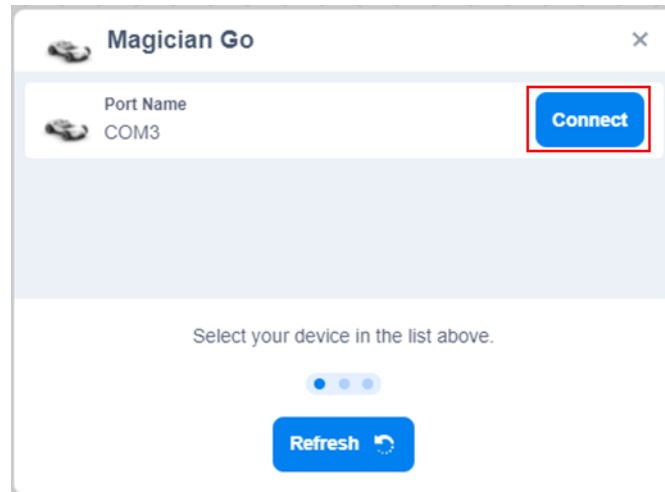

Figure 4.18 Connect Magician Go and DobotLab
Step 5 Click “Connect”, as shown in Figure 4.18.